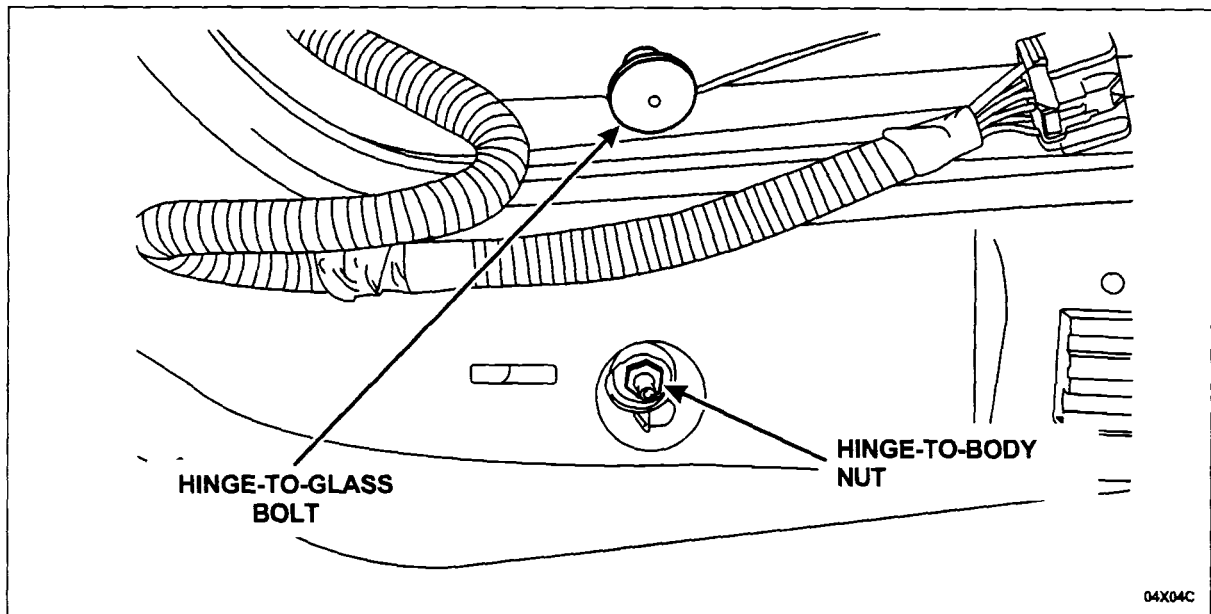

FIGURE 3
- NEW** 6. Using a magnetic socket or tool, remove one (1) liftgate glass hinge-to-body nut then the hinge-to-glass bolt and remove one (1) hinge from the vehicle. Retain the spacer from the hinge-to-glass bolts for use with the *new* bolts. See Figure 3.